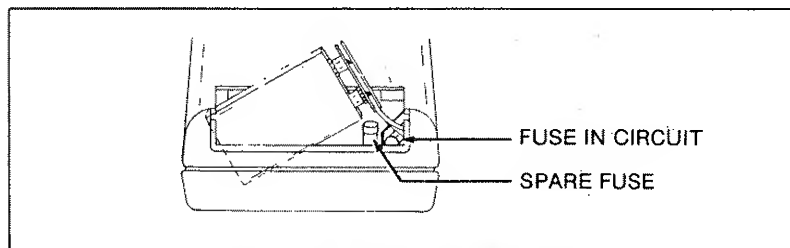

Figure 2-2. Battery Removal and Fuses
4. Slide the battery out of the compartment as shown in Figure 2-2.
There are two fuses located at the right side of the battery compartment (refer to Figure 2-2 or examine your instrument). The fuse at the far right is F1. Fuse F1, 2A/250V, protects the current input from an input overload. The other fuse is a spare fuse for F1. When you purchase your instrument, F1 should be installed and the spare fuse should be in one of the two slots next to it. The larger slot is for the American-style fuse, and the smaller slot is for the European-style fuse (either style fuse fits in the installation compartment).